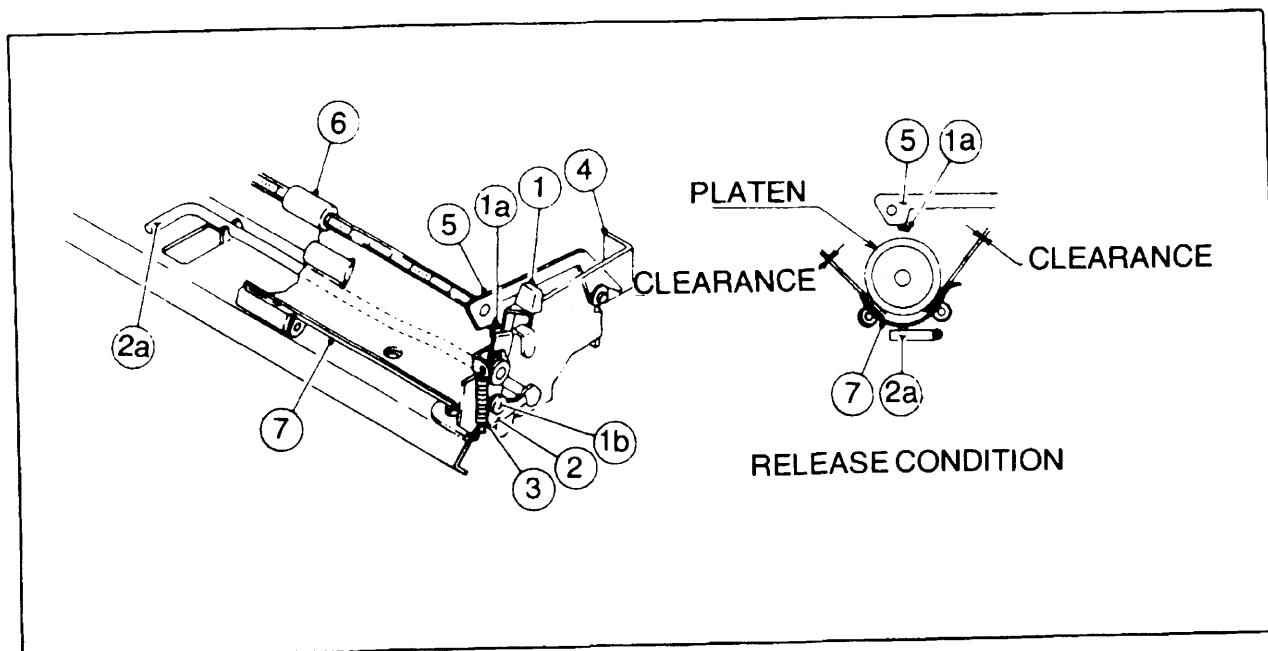

Fig. 2-24. This paper release mechanism is from the Olympia Model B-12, taken from the Olympia service manual (courtesy of OLYMPIA USA INC.).
For a view of yet another paper release mechanism, see Fig. 2-24. Normally (that is, when the mechanism is set to feed paper through the typewriter), the L-shaft arm (2a) pushes the paper pan (7) toward the platen side by the tension of the spring (3).